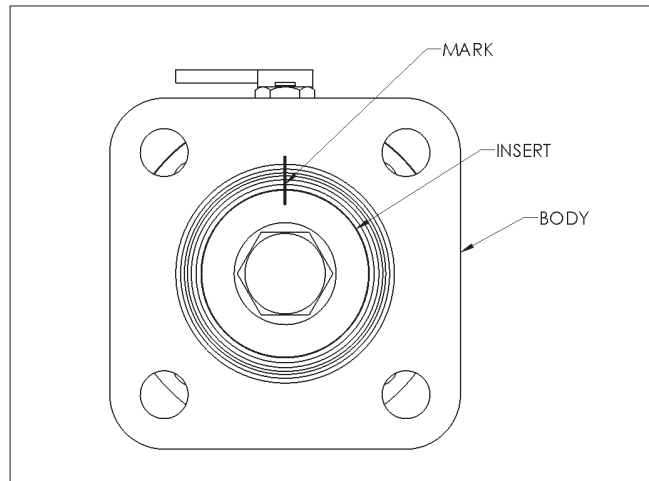
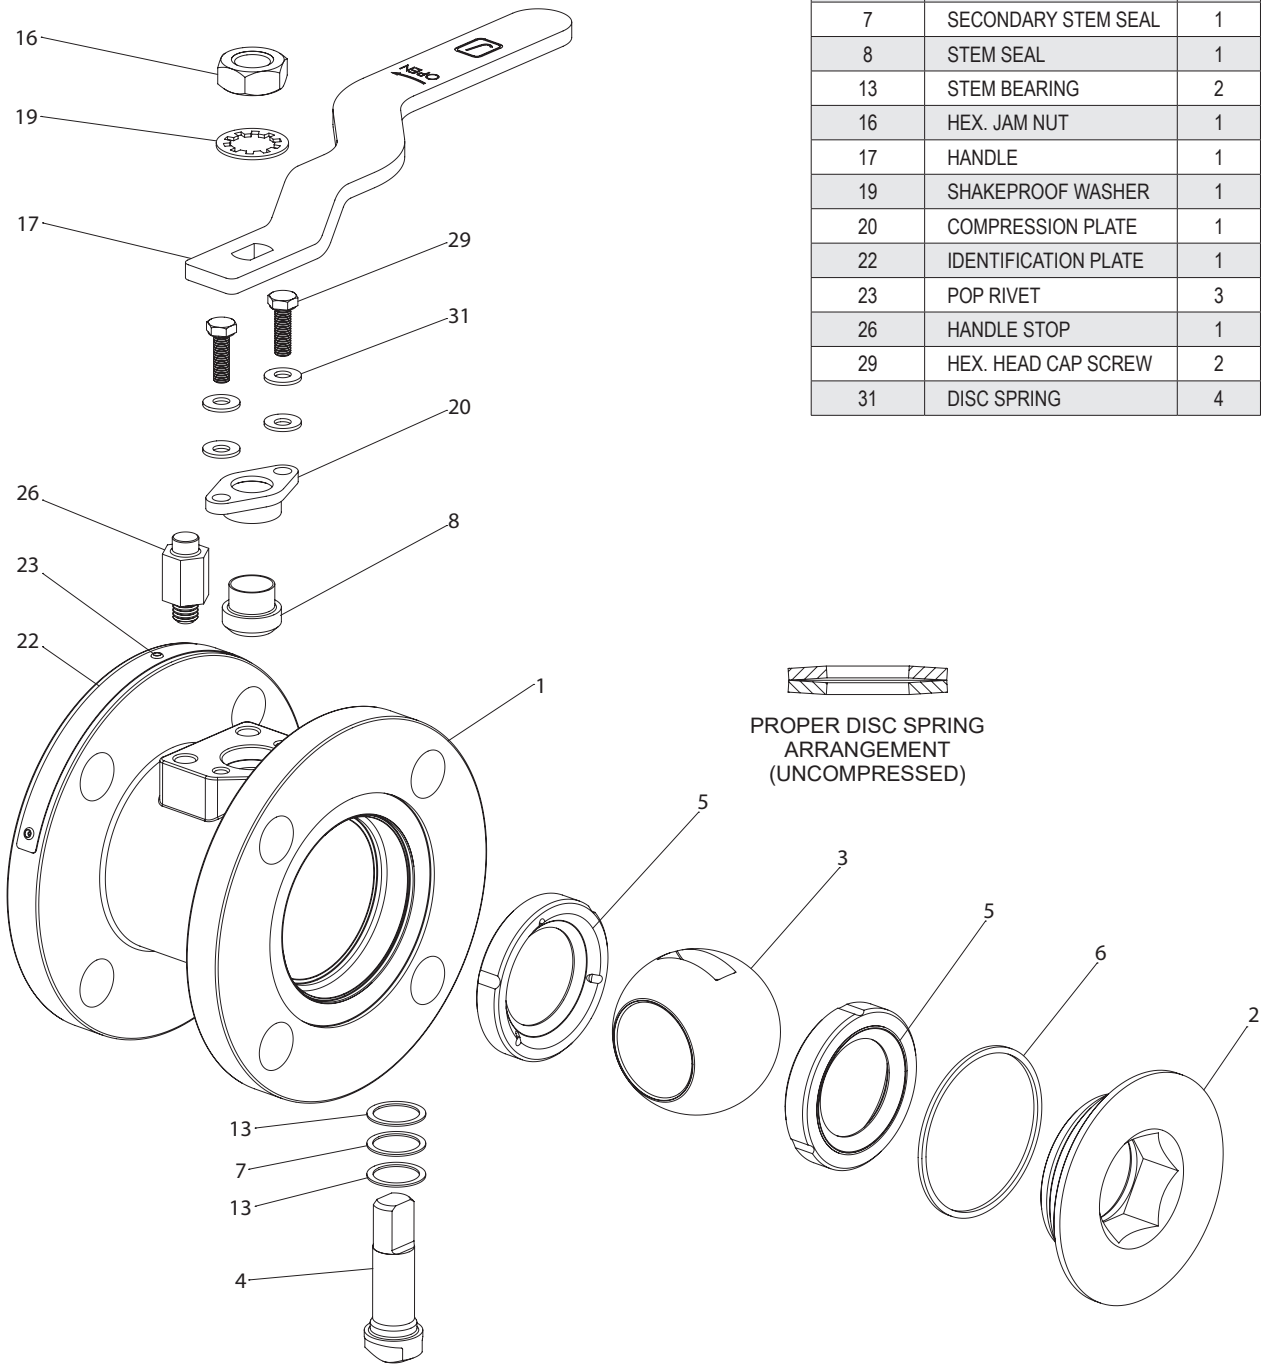

Figure 6.
Figure 8. 1" (DN 25) & 2" (DN 50) 7RRR & 7RRT
- c. From **Figure 8 or 9**, the ballooned part number, part name and quantity required.
5. Place the stem bearings (13) and secondary stem seal (7) on the stem (4) shown in **Figure 8 or 9**.
7. Holding the stem in place from the inside, install the stem seal (8) and the compression plate (20) over the end of the stem protruding out of the body stem bore as shown in **Figure 8 or 9**.
8. Place the disc springs (31) on the cap screws (29). Disc spring orientation shall be as shown in **Figure 8 and 9**. Insert cap screws (29) with springs into body and tighten "finger-tight".
9. While pressing the stem (4) outward from inside the body, tighten the cap screws (29), apply torque evenly, alternating between the two nuts so that the compression plate will be parallel with the valve body. Rotate the stem gently to assure proper seating.
10. Tighten the cap screws (29) to the torque provided in (**Table 2**) (Hex head cap screw (29) torque).
11. Make sure there is no dirt and grit in the insert (2) threads. Apply a lubricant compatible with the flowing media to the threads and screw the insert (2) into the body (1) by hand until it is fully seated. Mark the position as shown in (**Figure 6**). Counting the number of turns, remove the insert.